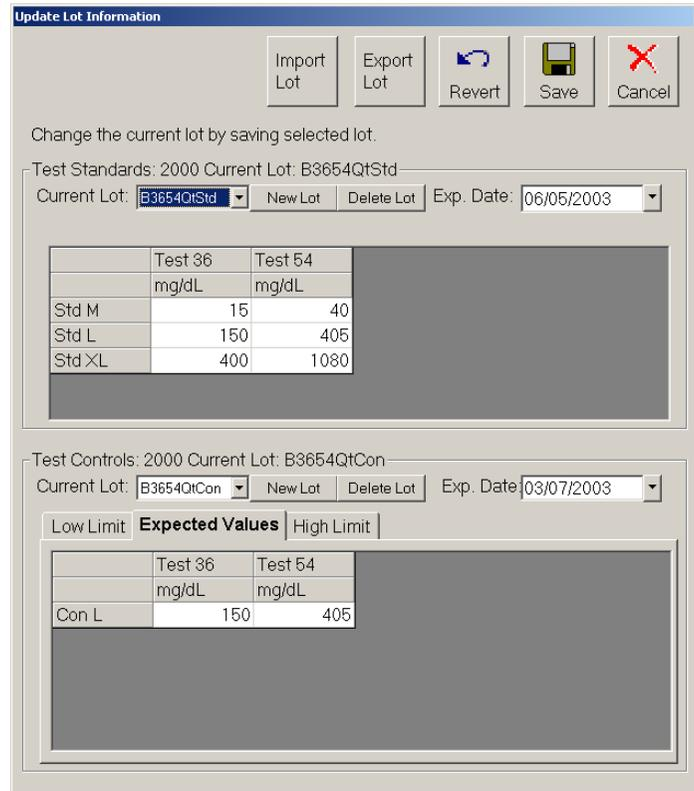

Figure 45 Update Lot Information Dialog Box
2. Select the template to receive the imported lot and click **Select**. The **Update Lot Information** dialog box opens. See Figure 45.
2. Double-click the template containing the lot to export. The **Update Lot Information** dialog box opens. See Figure 45.